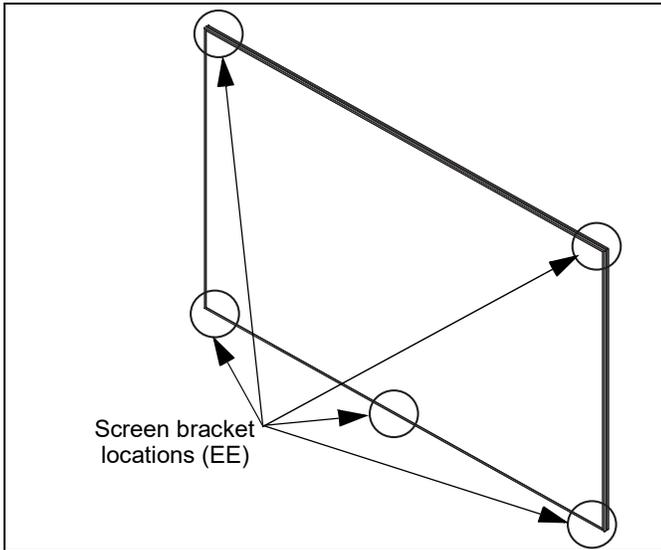

Figure 24
NOTE: After image alignment use 3 screen brackets (EE) along bottom of screen, and locate brackets as close to outer corners as possible. Remaining two brackets are used along top of screen. (See Figure 24)